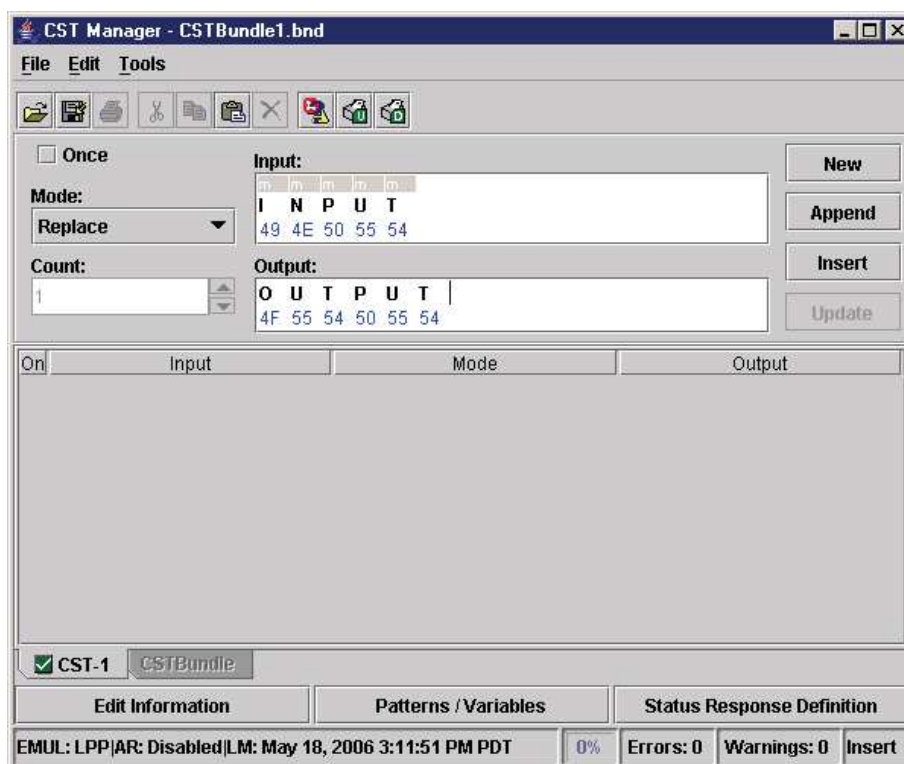

Figure 136 Creating a CST to Download Into a Printer
The datastream adapter is a software filter tool that allows you to take data from an incoming datastream and replace the data with different data, insert new data at any location in the datastream, or flush out portions of the datastream. This is accomplished through Character Substitution Tables (CSTs) created by the CST Manager (page 135). See Figure 136.
4. In the Output field, type **OUTPUT**. See Figure 136.